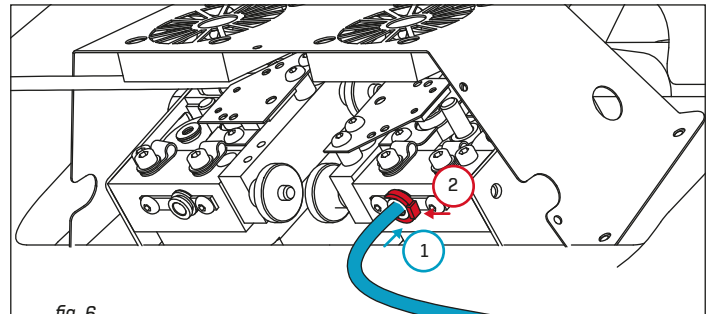

fig. 6
7. Plug in the bowden tubes to the T0 and T1 extruders (fig. 6). To do that:
- plug in bowden tube into the nipple (fig. 6, step 1).
- put the collet clip on (fig. 6, step 2).